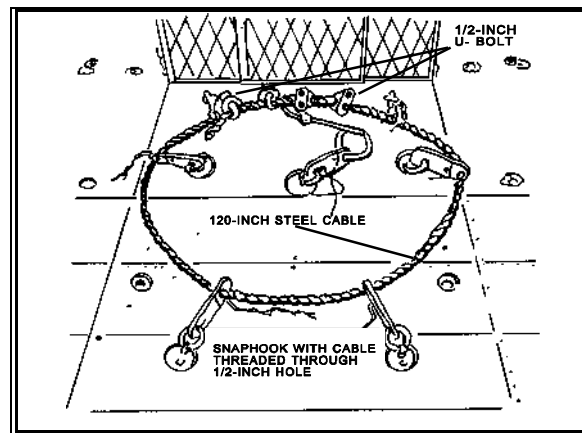

Figure 3-2. Donut ring attached to the floor of the helicopter.
- d. Secures the donut ring to the center of the floor of the helicopter. The donut ring has six snaphooks numbered clockwise, with 12 o'clock being toward the front of the helicopter. Positions the clamps of the donut ring toward the aft end of the helicopter. Ensures the front two snaplinks and rear two snaplinks are facing outside of the donut ring and hooks them to the tie-down ring with the snaphook facing down. Ensures the center two snaphooks face into the donut ring and are connected to the floor tie-down ring with the gate facing down (Figure 3-2). Attaches the free-floating safety ring to the center floor tie-down ring using a seventh snaphook.
- a. **Donut Ring.** This primary (or No. 1) anchor point for the rappelling ropes is constructed from a 1/2-inch steel cable with a steel wire core. The cable is 120 inches long, consists of 6 strands (18 wires per strand), and has a tensile strength of 21,000 pounds (Figure 3-2). The completed donut ring has a tensile strength of 3,000 pounds.